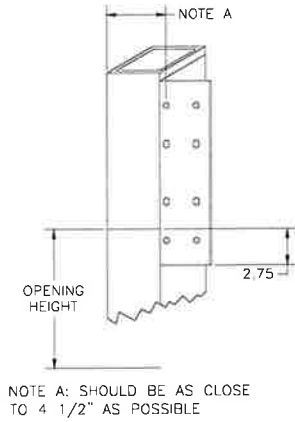

Figure 2.
3.2 Narrow Jamb Application: Narrow jamb plates are available, for situations in which the jamb is not wide enough for bracket mounting. This condition should be made known at the time of order entry so that you will have the hardware when you need it. (See Figure 2).